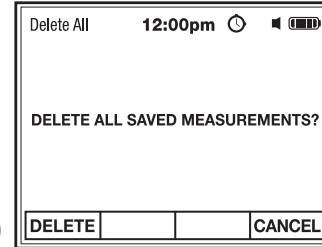

Fig. 20
2. Press the **F1** DELETE soft key to delete **ALL SAVED MEASUREMENTS** (Fig. 20).
3. Press the **F4** CANCEL soft key to return to Measurements without deleting (Fig. 20).